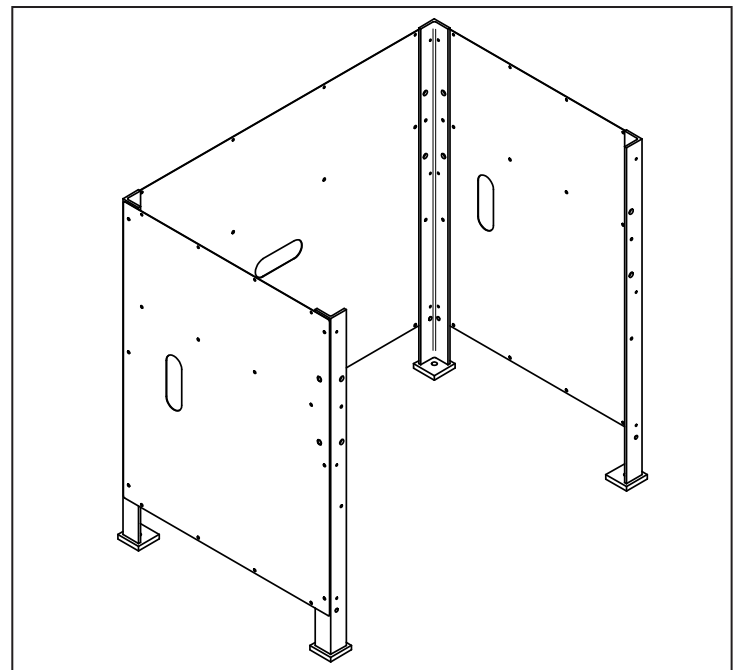

Figure 2
2. Using six 10-32 x 3/8" Phillips Screws, attach Back Panel (see **Figure 2**).